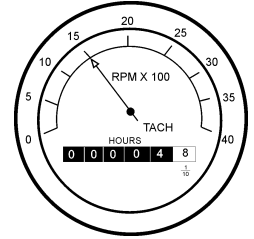

Figure 25. Engine Tachometer
- While monitoring the tachometer, (Figure 25) use the Engine Throttle Control to set the engine speed to 1500 RPM by following steps 8A-8C.
- While monitoring the tachometer (Figure 25), use the **Engine Throttle Control** to set the engine speed to 2550 RPM (maximum speed) using steps 8A-8C